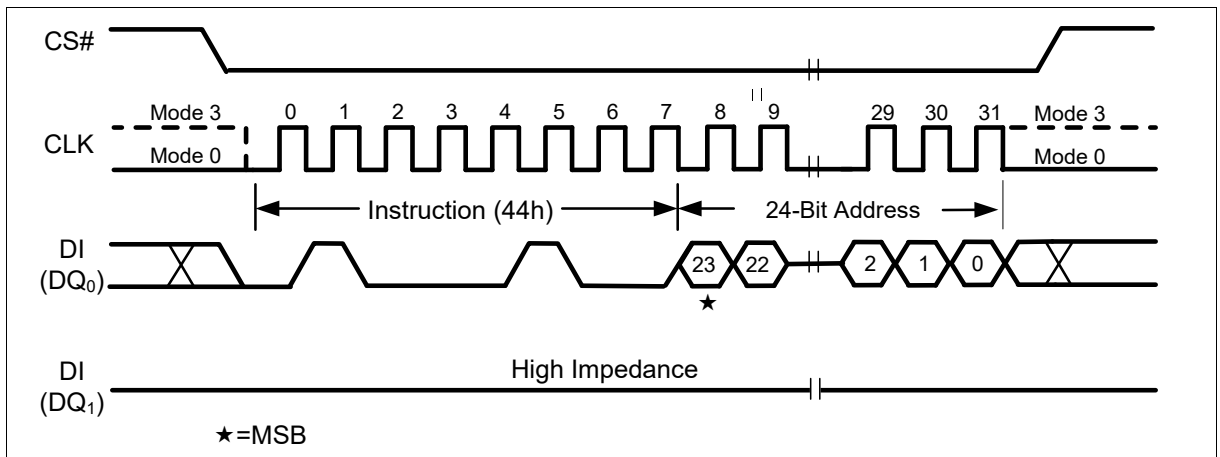

Figure 59 Erase Security Sector Instruction (SPI Mode only)
The Erase Security Sector instruction sequence is shown in Figure 59. The CS# pin must be driven high after the eighth bit of the last byte has been latched. If this is not done the instruction will not be executed. After CS# is driven high, the self-timed Erase Security Sector operation will commence for time duration of  $t_{SE}$  (See “12.6AC Electrical Characteristics”). While the Erase Security Sector cycle is in progress, the Read Status Register instruction may still be accessed for checking the status of the WIP bit. The WIP bit is a 1 during the erase cycle and becomes a 0 when the cycle is finished and the device is ready to accept other instructions again. After the Erase Security Sector cycle has finished the Write Enable Latch (WEL) bit in the Status Register is cleared to 0. The Security Sector Lock Bit (LB) in the Status Register-2 can be used to OTP protect the Security Sectors. Once the LB bit is set to 1, the Security Sector will be permanently locked, Erase Security Sector instruction will be ignored.